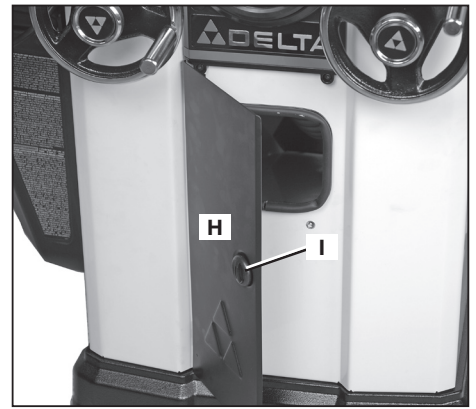

FIG. 85
CLEAN SAWDUST BUILDUP OUT OF CABINET PERIODICALLY: An access panel (H) Fig. 85 in the front of the saw helps with this. Open the panel — by twisting the knob (I) — and clean out sawdust buildup periodically. **NOTE:** Debris can also be removed from the Unisaw from below the throat plate, inside the dust port and from behind the motor cover.